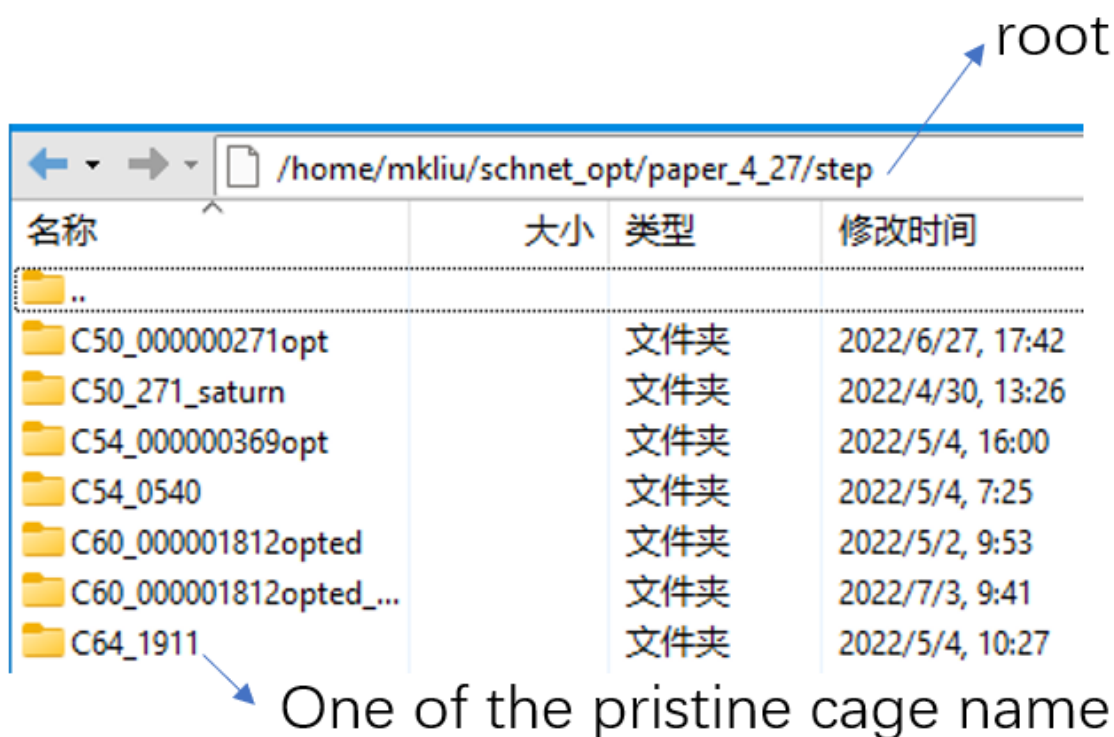

Fig 5. An AutoSteper workspace.
- `root`: the ABSOLUTE path to the growth simulation workbase, where the `AutoSteper` would make a directory in the name of the pristine cage. Fig 5 presents one of the workbase directory.